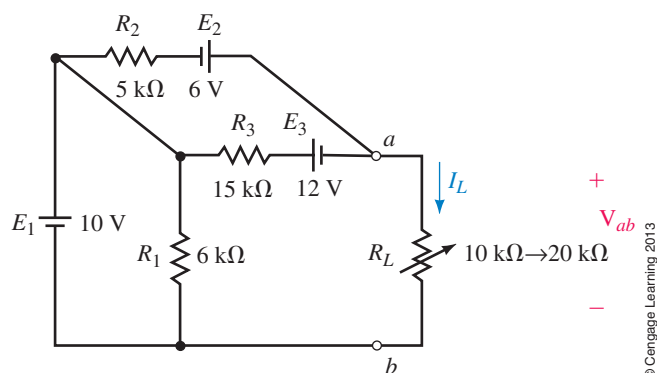

FIGURE 9-86
12. Refer to the circuit of Figure 9-86: